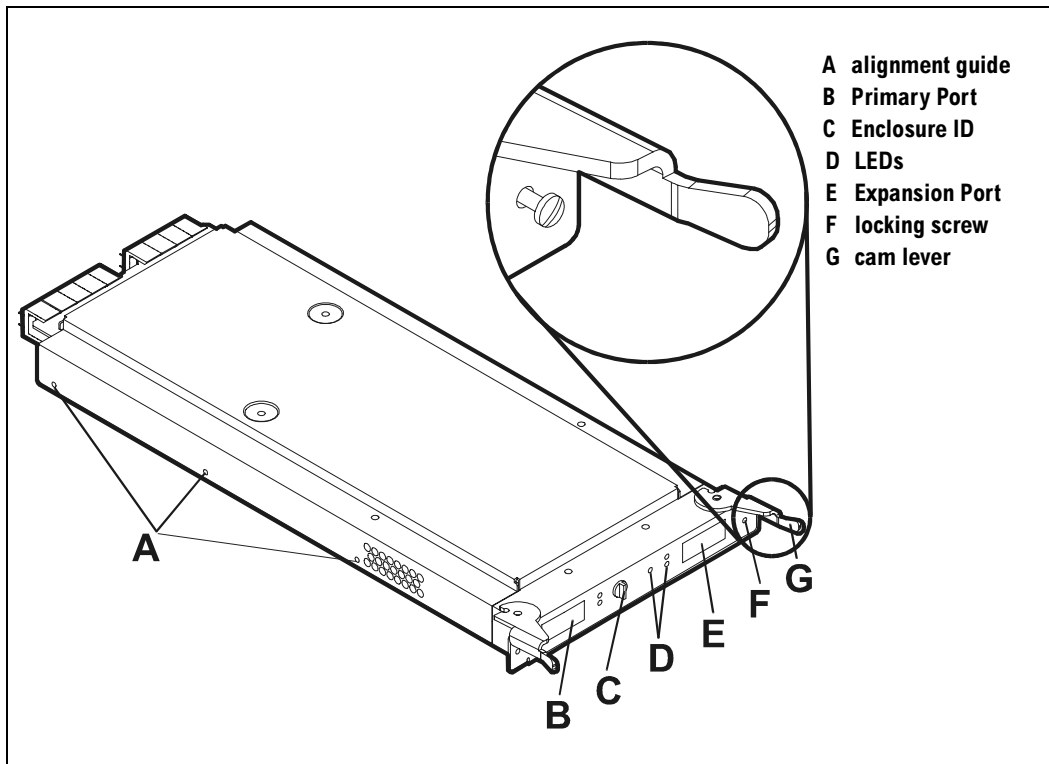

Figure 3 LCC
Each LCC provides two ports on one of the redundant internal loops. The Primary Port (B in Figure 3) connects the disk system to the external Fibre Channel loop through a host, hub, or another disk system. The Expansion Port (E) connects to the Primary Port of another disk system for daisy-chain configurations. When both LCCs are connected to a host or hub, both internal loops are active and the LCCs are hot-pluggable.